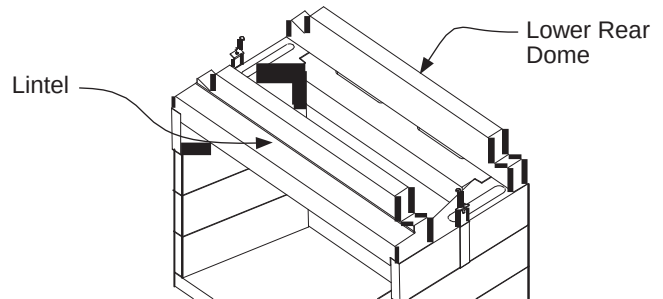

**Figure 44 - Attaching Lower Rear Dome and Lintel**
10) Set the Lintel and Lower Rear Dome in place as shown in Figures 44. Check that all is level. If you need to make adjustments, use shims. Place one or more of these shims between the lowest wall component and the top surface of the base plate. Once you are satisfied with the degree of levelness, you can address any gap that may have occurred with an appropriate amount of mortar.